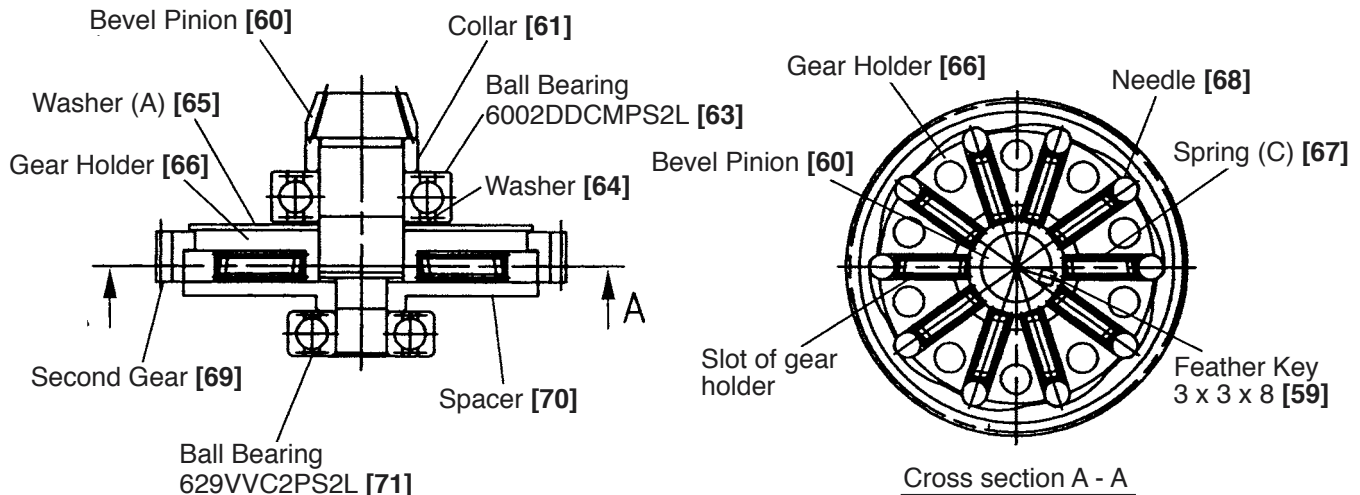

Fig. 22
(4) Reassembly of the slip clutch
Press-fit the Bevel Pinion [60] into the Collar [61] and the Ball Bearing 6002DDCMPS2L [63] then insert it into the Washer [64] and Washer (A) [65]. Mount the Feather Key 3 x 3 x 8 [59] to the Bevel Pinion [60] then press-fit into the Gear Holder [66]. Mount the Second Gear [69] around the outer circumference of the Gear Holder [66]. Before mounting, apply Hitachi Motor Grease No. 29 to the inner circumference of the Second Gear [69]. Insert the ten Needles [68] being careful not to incline them, then push in ten Springs (C) [67] as shown in Fig. 22. Fill the slots and the through holes of the Gear Holder [66] with Hitachi Motor Grease No. 29. Press-fit the Bevel Pinion [60] into the Spacer [70] and the Ball Bearing 629VVC2PS2L [71].